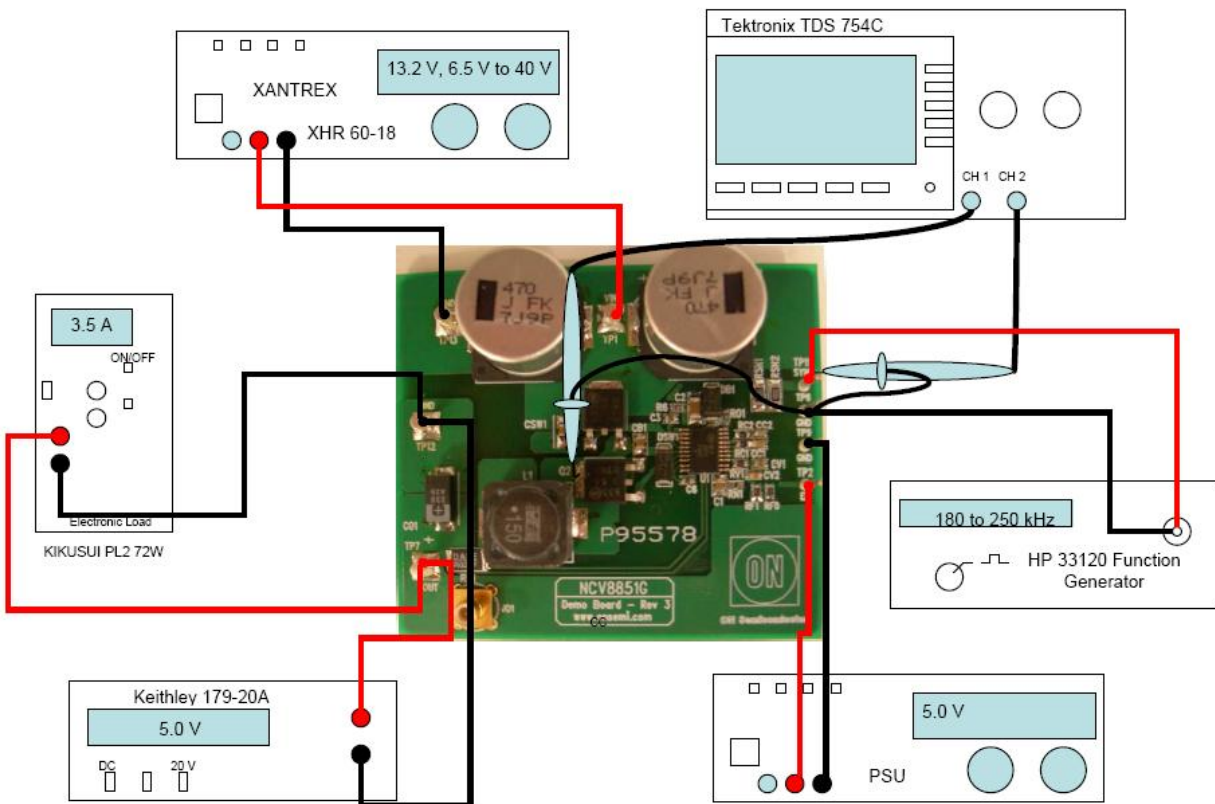

Figure 1: Test Setup
1. Connect the test setup as shown in Figure 1, but with the function generator disconnected. Monitor switch node (SWN, tab of Q2/right side of L1) continuously for stability (no jitter).
3. Set the enable input (EN) to 5.0 V.
2. Disable the generator's output and connect it to SYNC and GND (see Figure 1).